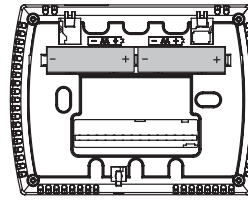

Figure 5. Insert two AA batteries in back of thermostat.
- Insert two AA batteries (included) into the back compartment of the thermostat, where indicated (see Fig. 5).